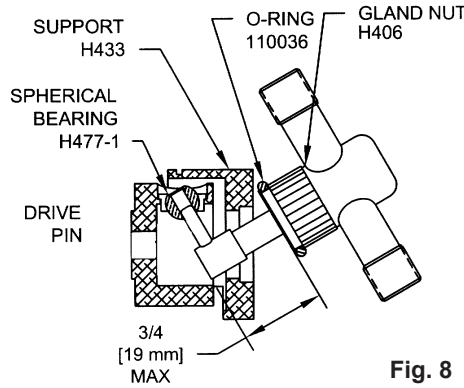
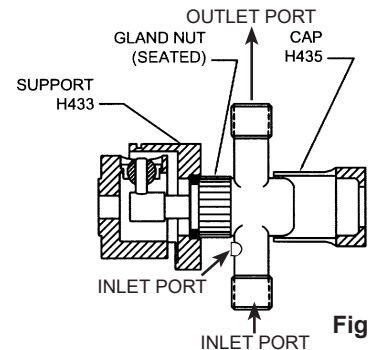

Fig. 8
Fig. 9
20. REMOVING PISTON/CYLINDER GROUP ASSEMBLY. (refer, Fig 8.) remove two 110655-20 screws and while holding cylinder ports in place, slip part H435 off of CYLINDER ASSEMBLY H422. Tilt the assembly as shown in figure 8. This will permit removal of PISTON DRIVE PIN 110366 from SPHERICAL BEARING H477 without fully withdrawing piston from liner.
22. PISTON/CYLINDER GROUP ASSEMBLY REPLACEMENT. (refer, figs. 8 & 9) Install "O" RING 110036 over GLAND NUT H406. Note in fig. 8 that PISTON DRIVE PIN must be guided into SPHERICAL BEARING H477-1 while the piston and cylinder remain assembled. This for the purpose of avoiding assembly damage to the seals. When PIN is in bearing, seat GLAND NUT with "O" RING in SUPPORT H433 as shown in fig. 9.